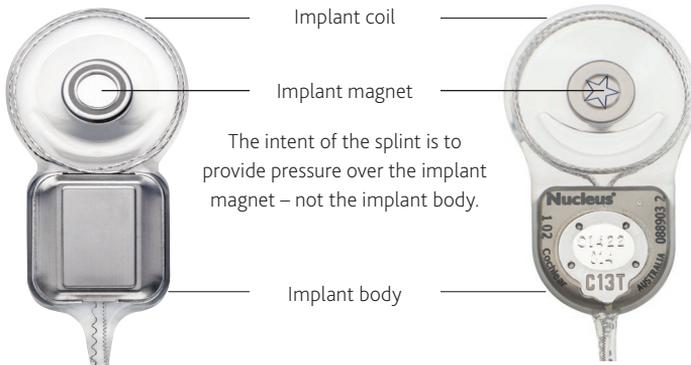

Figure 7: Location of the implant magnet on CI500 Series (left side) and CI24RE Series (right side) implants
- Touch - gently feel around the implant site to locate the position of the implant coil. The implant is comprised of two components; the round implant coil and the implant body. See *Figure 7* below. The implant magnet will be at the centre of the implant coil.
1. Use a splint from the MRI Kit and centre it over the implant magnet site (as marked) against the skin. Ensure the splint is held in place over the implant magnet. See *Figure 7* below for the implant magnet location. You may need the assistance of another person to hold the splint in place while you bandage. Otherwise, use the supplied tape to maintain the splint position prior to bandaging.